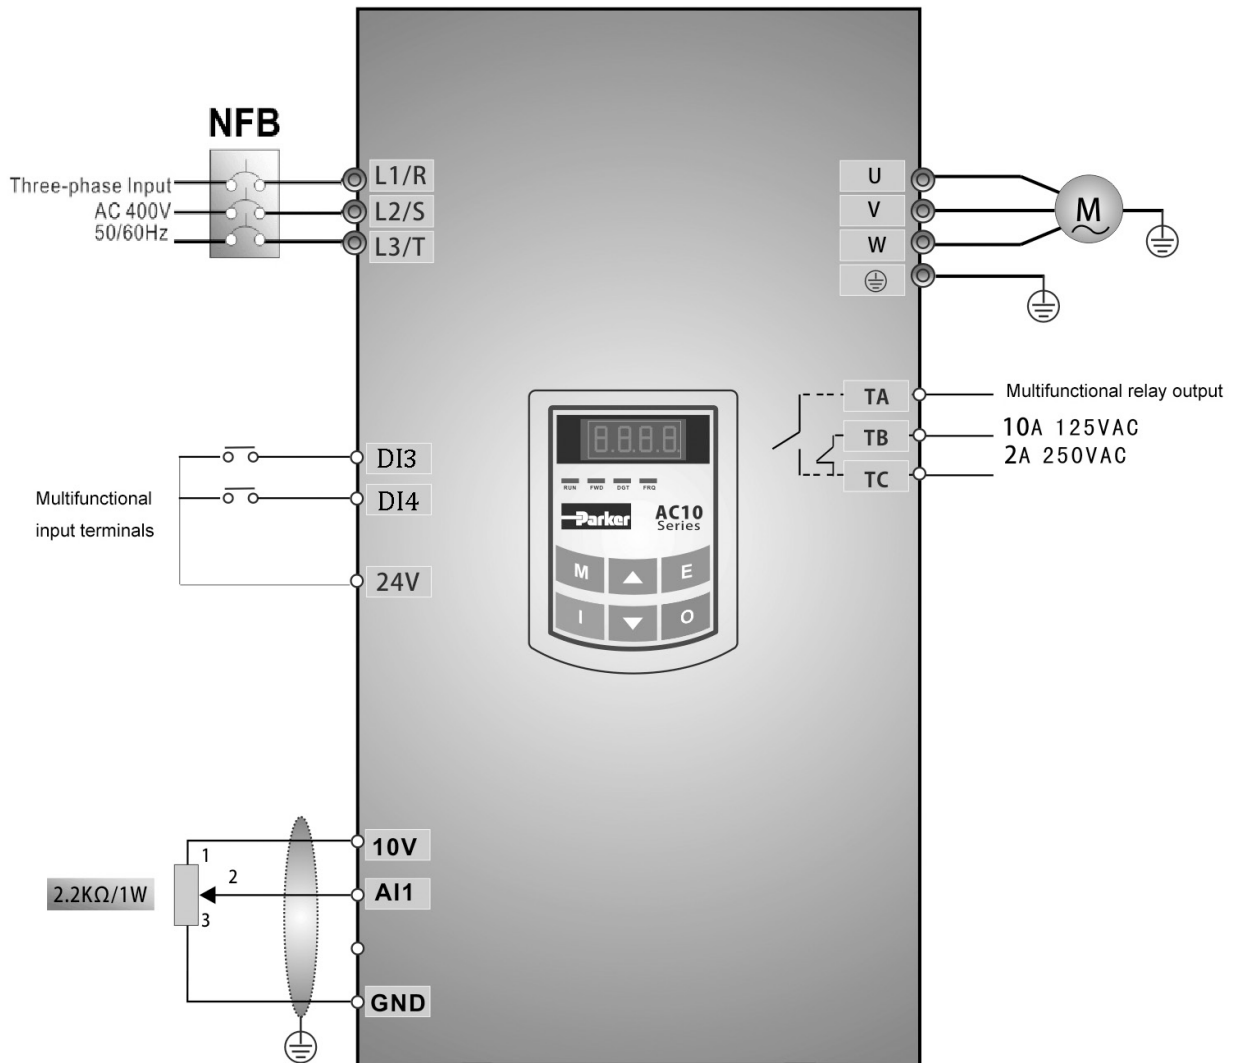

Figure 8-3 Wiring Diagram 3
- i. Connect the wires in accordance with **Figure 8-3**. After having checked the wiring successfully, switch on the air switch, and power on the inverter. Note: 2K~5K potentiometer may be adopted for setting external analog signals. For the cases with higher requirements for precision, please adopt precise multiturn potentiometer, and adopt shielded wire for the wire connection, with near end of the shielding layer grounded reliably.